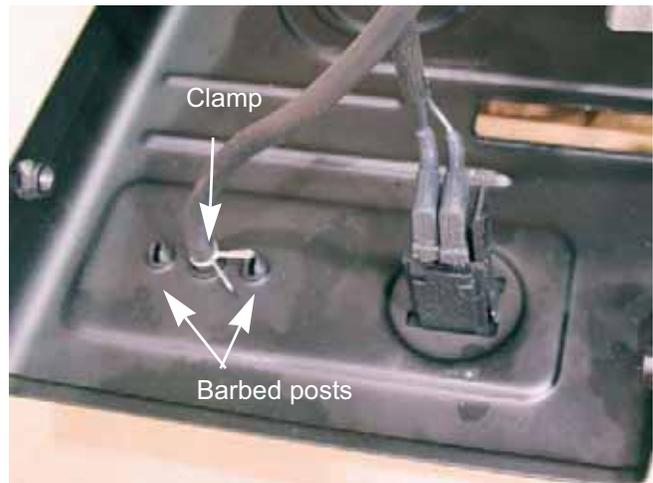

Figure 4.24
4. Remove the hose clamp at the rear of the primer bulb. See Figure 4.24.
5. The primer is held to the shroud by a pair of split, barbed posts. Squeeze the posts to release the barbs. See Figure 4.24.